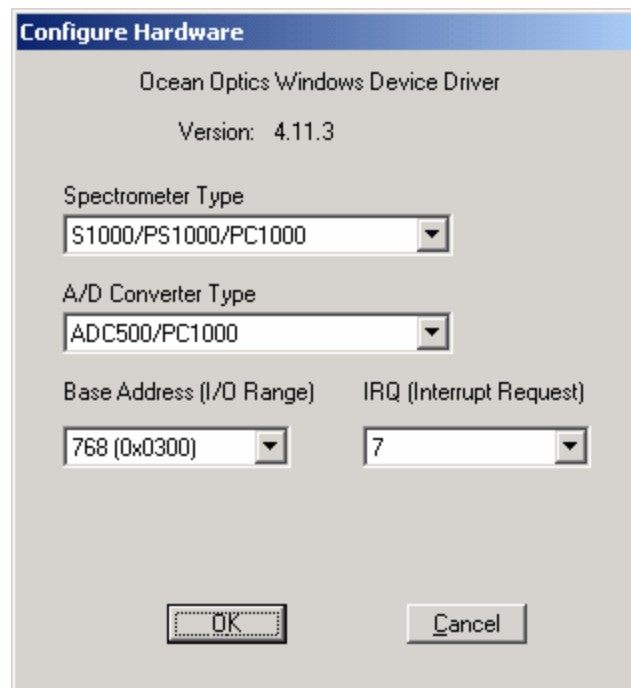

Figure 3.1: Configure Hardware window
3.4.3 The first time you run the spectroradiometer software, a ‘Configure Hardware’ window will appear (see figure 3.1 below). Select the following values in the drop-down menus: